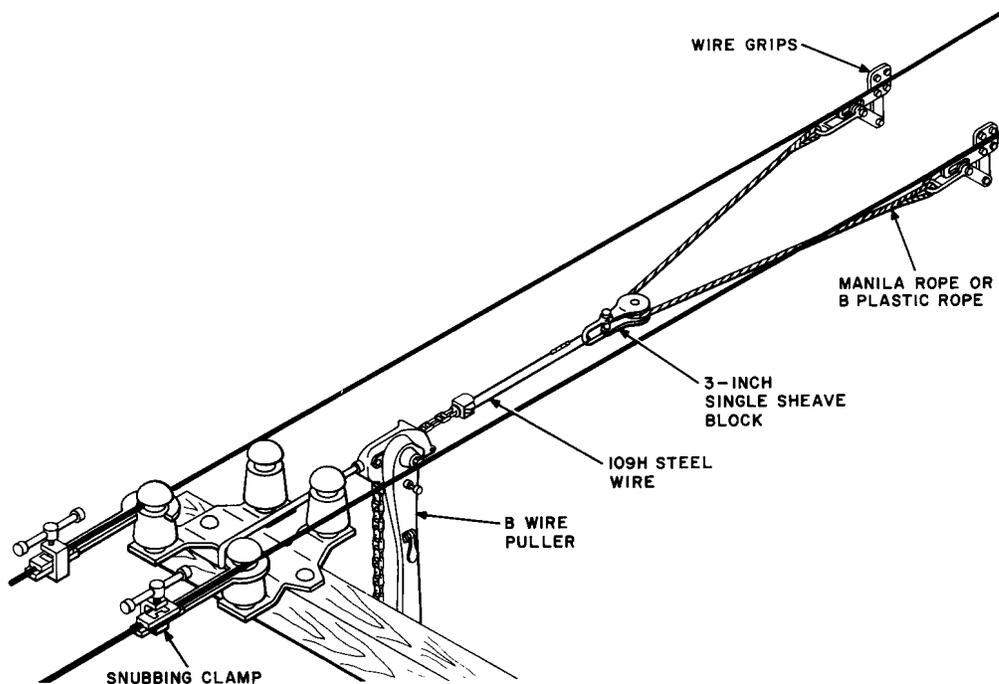

Fig. 5—B Wire Puller Placed
4.01 Prepare an equalizing block locally as shown in Fig. 5. Attach the 3-inch single sheave block to a B Wire Puller with a loop of 109H Steel Line Wire. Join the ends of the 109H Wire loop with a 109H S Steel Sleeve. Pass a length of manila rope or B Plastic Rope through the sheave and fasten wire grips to each end of the rope.
4.02 Hook a B Wire Puller (see also 4.04) to the crossarm at the Point Transposition Bracket (Fig. 5).